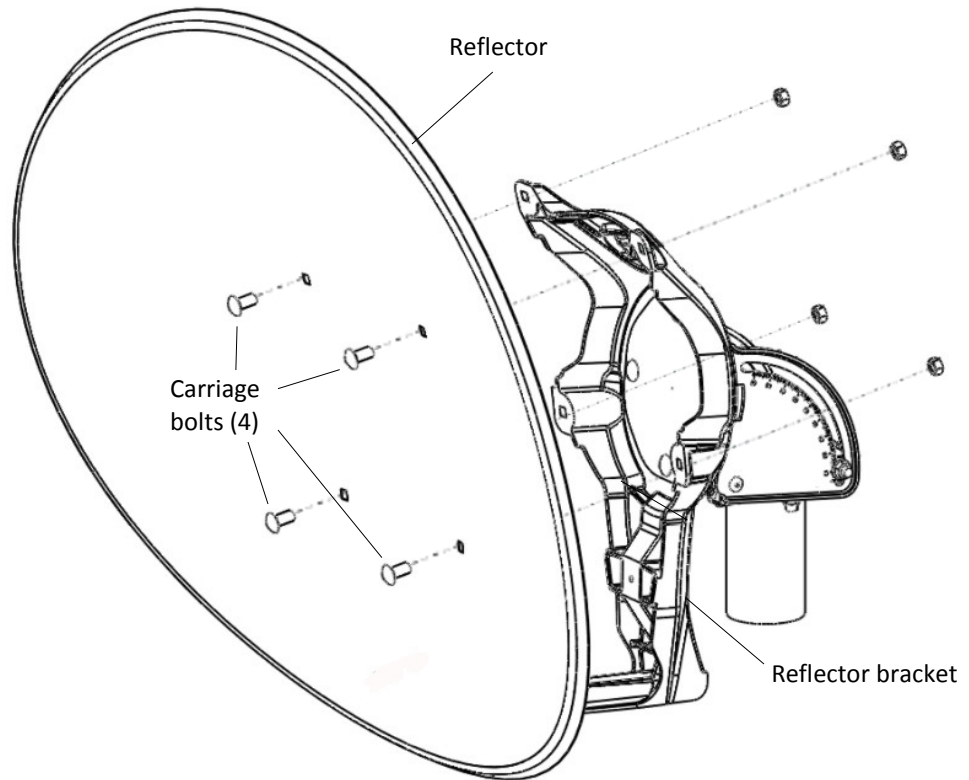

Figure 10: Attaching the antenna reflector
1. Hold the reflector against the reflector bracket; these parts are shown in Figure 10 on page 27.
2. Insert four carriage bolts ($\frac{5}{16}$ inch \times $\frac{3}{4}$ inch) into the holes in the reflector and through the corresponding holes in the reflector bracket, as shown in Figure 10.